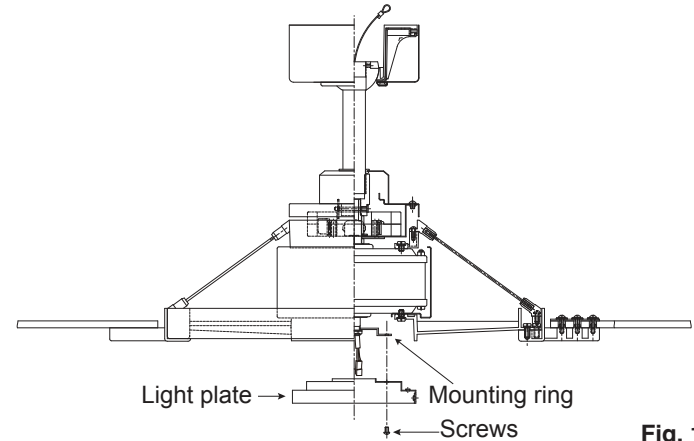

Fig. 16
Step 1. Loosen the two screws on the mounting ring attached to the motor shaft and “remove” and save the third screw. (Fig. 16)